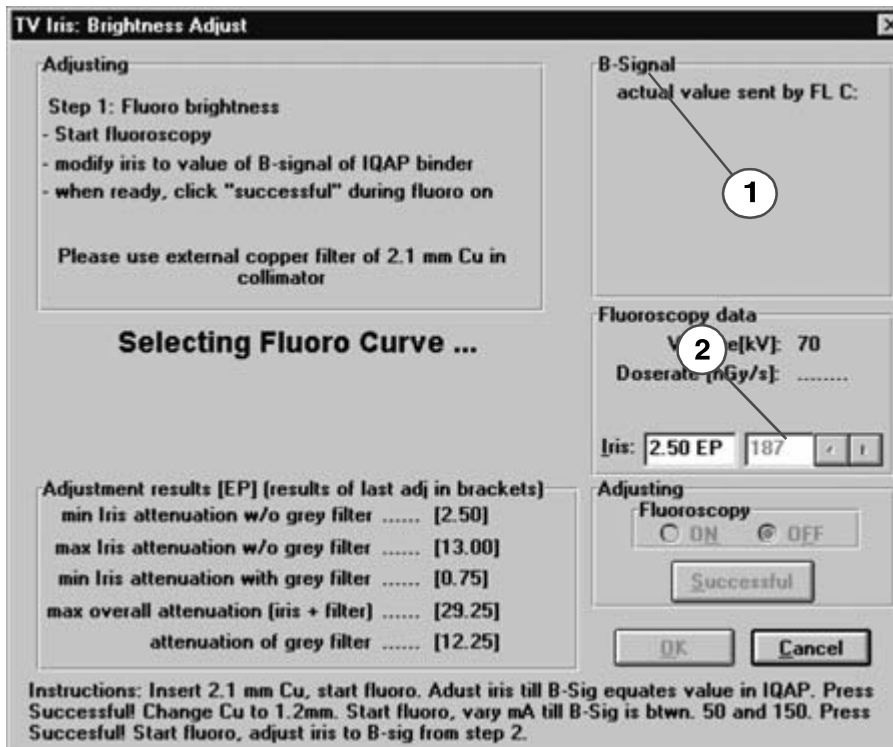

Fig. 24:
- Adjust the **Iris** value in the XCS SSW (2/ Fig. 24 / p. 38) as far as a **B-Signal** value of **110 ± 10%** is adjusted.